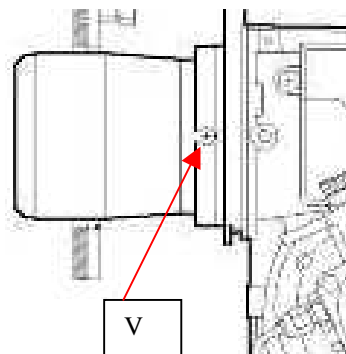

fig. 16
- Unscrew the two screws **V** (fig. 16) and remove the head of the burner.